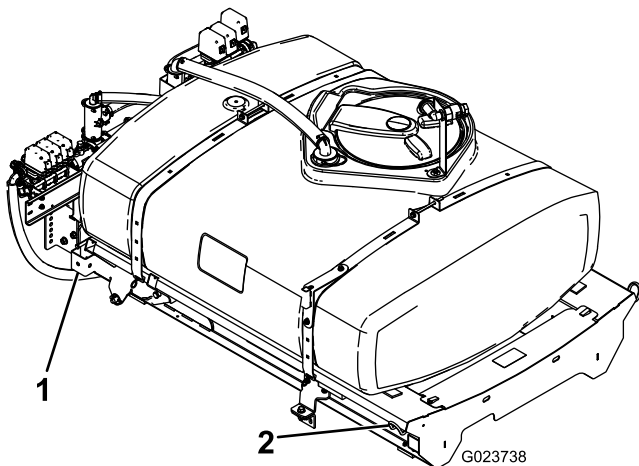

Figure 9
- Using a lift, raise the tank skid assembly (Figure 9) and position it over the vehicle frame with the pump and valve assemblies facing rearward.